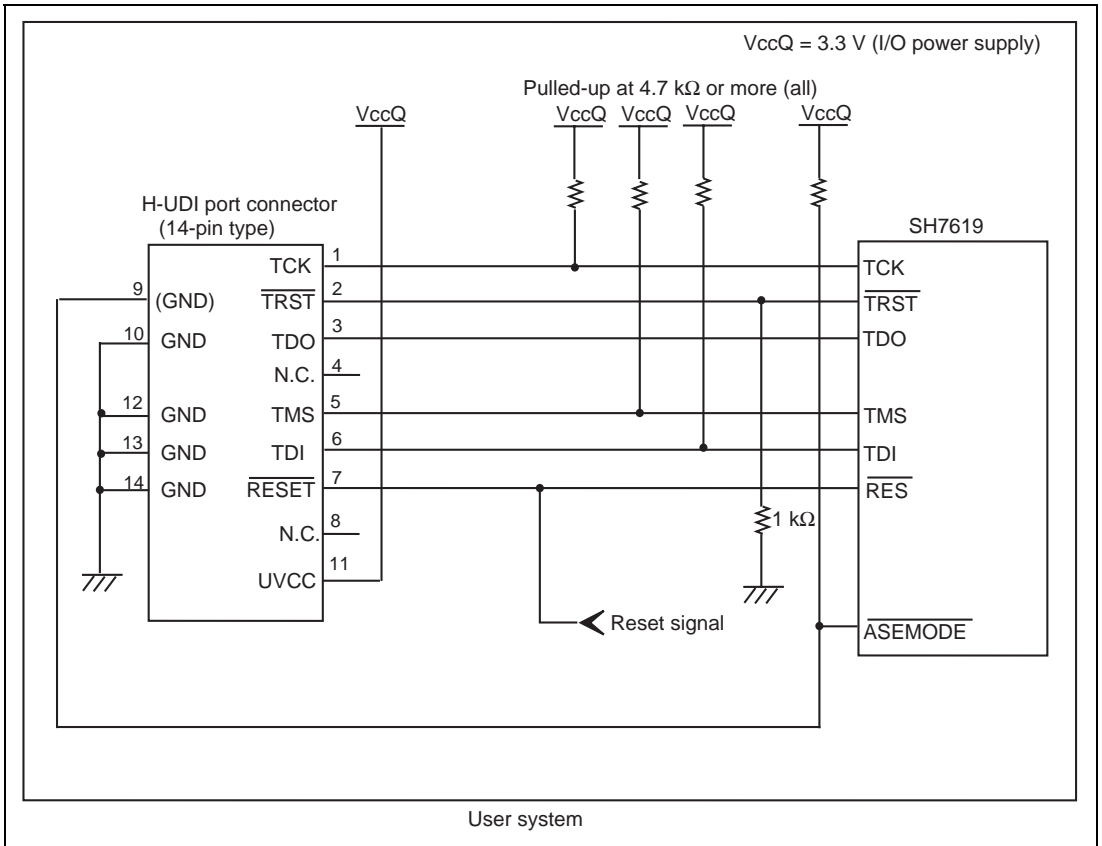

Figure 1.2 Recommended Circuit for Connection between the H-UDI Port Connector and MPU when the Emulator is in Use (14-Pin Type UVCC Connected)
Figure 1.2 shows a recommended circuit for connection between the H-UDI port connector (14 pins) and the MPU when the emulator is in use.
- (1) When the emulator is used: /ASEMODE = 0
- (2) When the emulator is not used: /ASEMODE = 1Figure 1.2 shows an example of a circuit that allows the /ASEMODE pin to be GND (0) whenever the emulator is connected by using the user system interface cable. When the /ASEMODE pin is changed by switches, etc., ground pin 9. Do not connect this pin to the /ASEMODE pin.
5. When the power supply of the user system is turned off, supplying VccQ of the user system to the UVCC pin reduces the leakage current from the emulator to the user system. A level shifter that is activated by the internal power supply or user power supply (changed by the switch) is installed in the interface circuit of the emulator. If the user power is supplied to the UVCC pin, the level shifter is not activated as long as no user power is supplied. When the power supply of the user system is turned off, no current flows from the user interface. The I/O voltage level of the user system interface can be the same as that of the VccQ. To operate the emulator with low voltage (lower than 3.3 V), the VccQ must be supplied to the UVCC pin. Make the emulator's switch settings so that the VccQ will be supplied (SW2 = 1 and SW3 = 1) (as shown in figure 1.2).
6. The resistance value shown in figure 1.2 is recommended.
When the circuit is connected as shown in figure 1.2, the switches of the emulator are set as SW2 = 1 and SW3 = 1. For details, refer to section 3.8, Setting the DIP Switches, in the Debugger Part of the SuperH™ Family E10A-USB Emulator User's Manual.